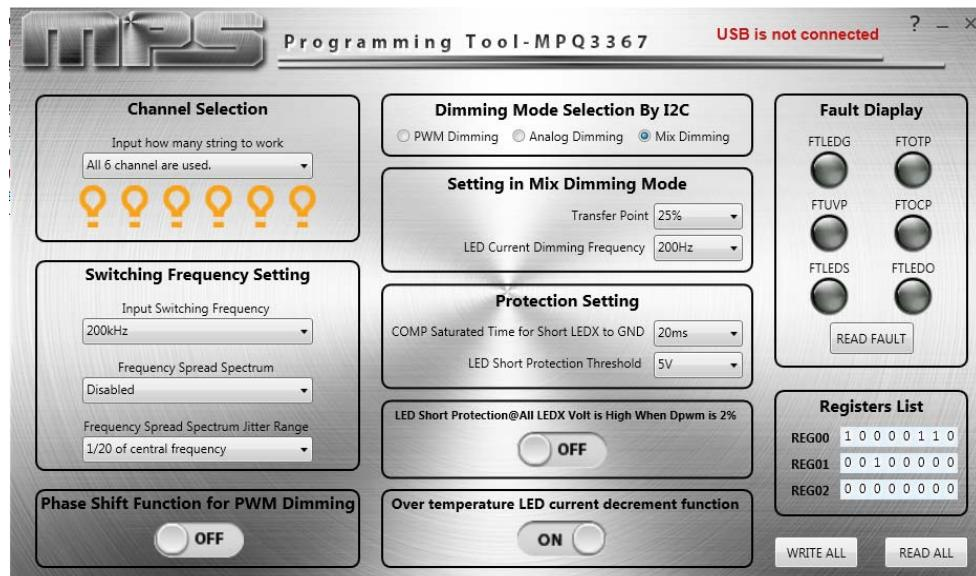

Figure 1: MPQ3367 GUI Interface
- a. Ensure that the I²C kit can communicate with the computer. If the message “USB is not connected” appears on the GUI, then the I²C kit cannot communicate with the computer (see Figure 1). Otherwise, the GUI and I²C kit are able to communicate.